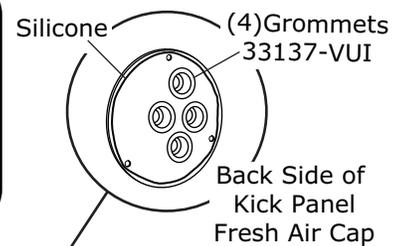

Figure 7b
1. Install (4) grommets in kick panel fresh air cap (See Figure 7b, below).
3. Apply a 1/4" bead of silicone around the back side of the kick panel fresh air cap as shown in Figure 7b, below.